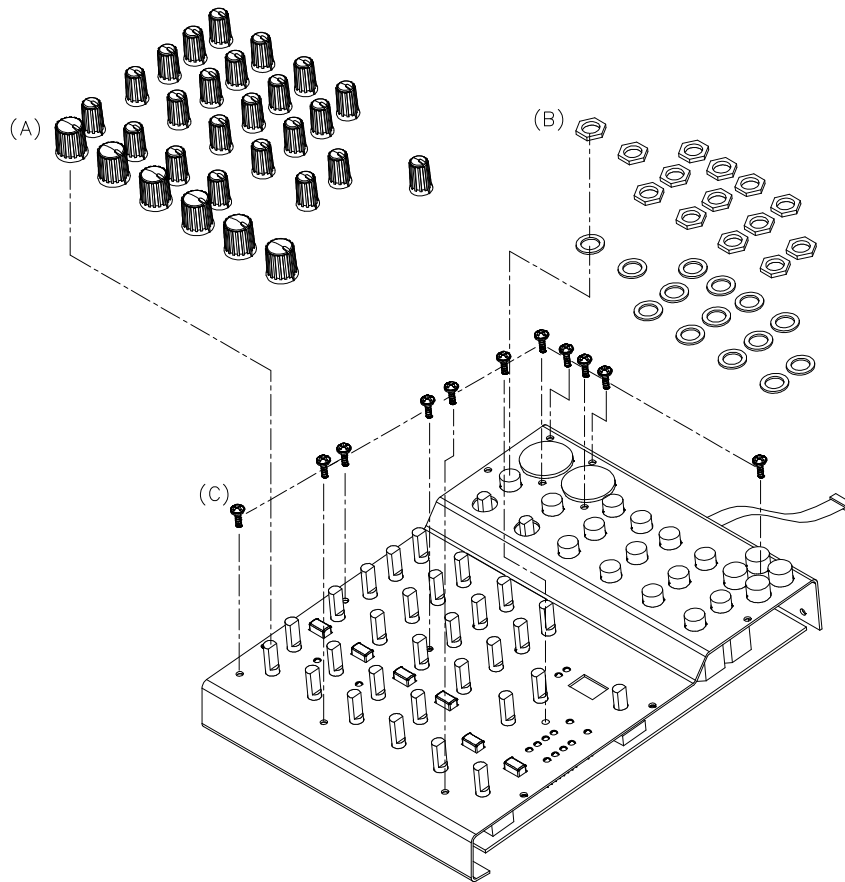

Fig.2
2. REMOVAL OF MAIN P.C.B (Fig2)
- (A) REMOVE THE 29 PCS KNOB FROM WHICH THE TOP PANEL
- (B) REMOVE THE 14 PCS NUT AND 14 PCS WASHER FROM WHICH THE TOP PANEL
- (C) REMOVE THE 13 PCS SCREW FROM WHICH THE TOP PANEL